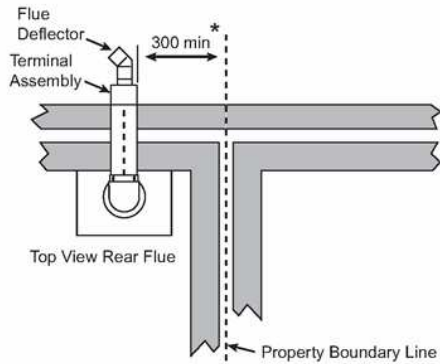

Fig. 12
- The distance from a fanned draught appliance terminal installed parallel to a boundary may not be less than 300mm in accordance with the diagram opposite (Fig. 12).